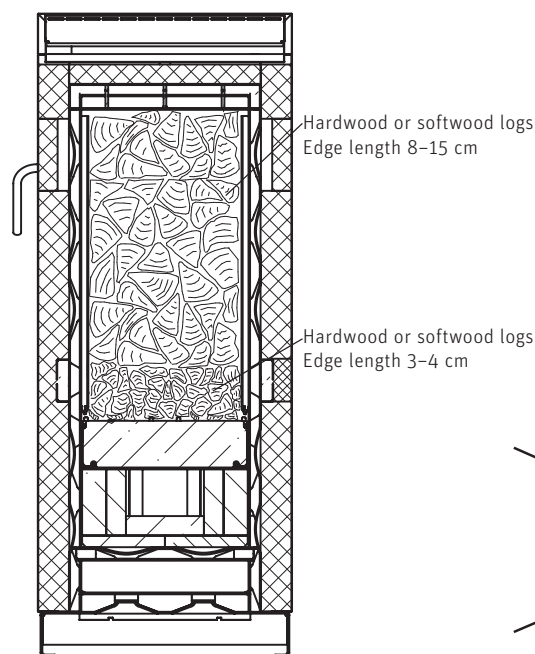
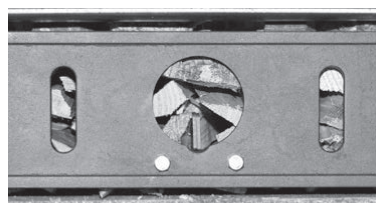

Fig. 10 Section through the filling chamber
Fig. 11 Log placed in the correct position in front of the ignition opening
- 2.) First **add** smaller then larger **split logs** of increasing length and fill up filling chamber as required – Fig. 10. Before closing the lighting door, check that there is wood just in front of the ignition opening – Fig. 11.